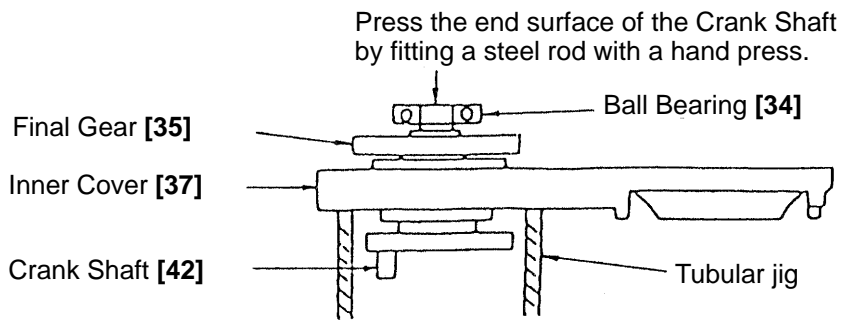

Fig. 7
- First, remove the four Seal Lock Hex. Socket Hd. Bolts M5 x 16 **[41]** which fix the Bearing Cover **[40]**. Then, as illustrated in Fig. 7, support the lower surface of the Inner Cover **[37]** with an appropriate tubular jig, align an appropriate steel rod with the end surface of the Crank Shaft **[42]**, and press down on the steel rod with a hand press. The Ball Bearing 6205DDCM **[39]**, Distance Ring (B) **[36]**, Final Gear **[35]**, two Woodruff Keys 4 x 16 **[43]**, and Crank Shaft **[42]** can then be disassembled from the Inner Cover **[37]**.